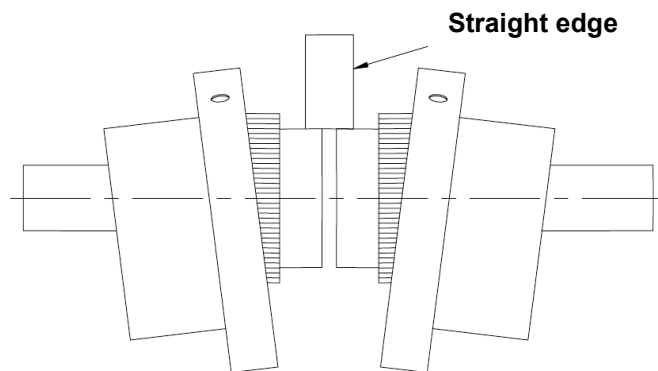

Figure 8.1: Measuring the radial misalignment
Measure the radial misalignment by laying a straightedge on both hubs (item 1) and measuring the gap between the hubs with the help of a feeler gauge (see figure 8.1). The straightedge must hereby be aligned with the axis of the hub. This measurement should be repeated multiple times until the point with the largest gap has been found. The size of the gap indicates the radial misalignment at that point. The maximum radial misalignment is given at the point of the largest gap. Alternatively, a depth gauge or dial gauge can also be used.